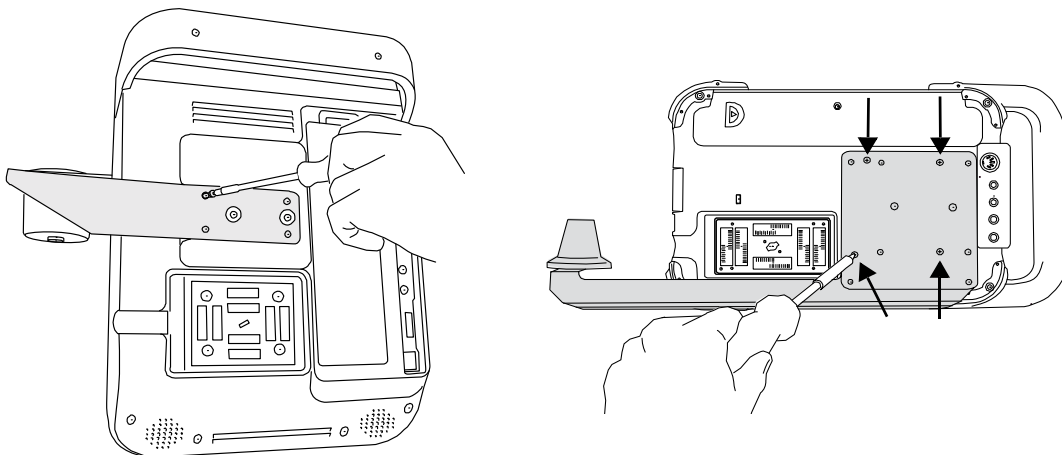

Figure 2 Turn screws on transducer holder: S Series (on left) and NanoMaxx (on right)
- 2 Using a Phillips screwdriver, tighten the four screws. See Figure 2.
- ❖ Using a Phillips screwdriver, loosen the four screws on the back of the transducer holder. See Figure 2.